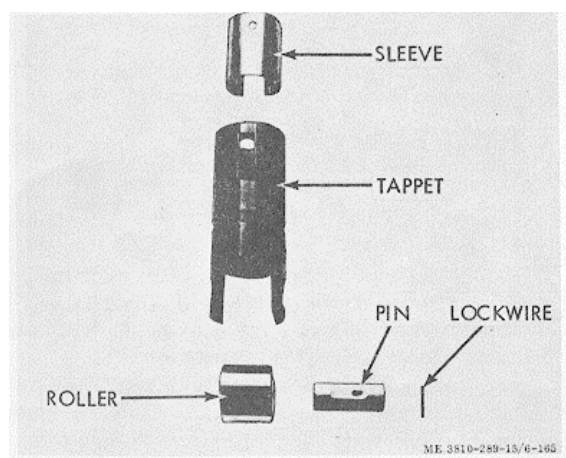

Figure 3-159. Tappet assembly.
(1) Refer to figure 3-159 and disassemble the tappet assembly.
(2) Place 0.006 in. shim between tappet and side of roller to prevent spring from locking when removing roller: press on end of pin that is not lock-wired (pinned)..
(3) Discard pin and lockwire.
(1) Refer to figure 3-159 and reassemble tappet assembly.